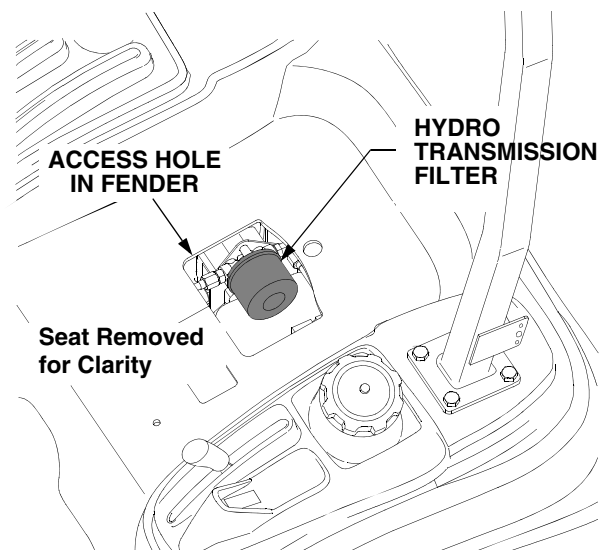

Figure 44
- Through the access hole in the rear fender, clean the area around the hydro transmission oil filter to prevent debris from entering the hydraulic system. Refer to Figure 44.
- Stuff shop rags underneath the hydro transmission filter to absorb any lost oil when the filter is removed. See Figure 44.